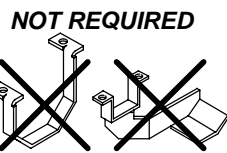

Fig. 5
6. Install the new transaxle on the machine. Use the existing mounting hardware including the supplied axle mounting bracket, if needed. Use soapy water to slide brackets over rubber mounts if necessary. Make sure to reinstall the shim on the side shown below (Figure 5).